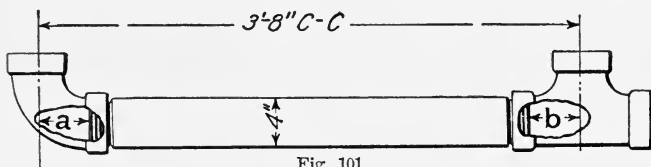

Fig. 101
**Center-to-Center Measurements.**—Center-to-center measurements, Fig. 101, are abbreviated C-C. They are taken from the center of one fitting to the center of the other. This measurement shortens the actual length of pipe to 3 feet 8 inches, minus  $a$  and  $b$ , the distance from the ends of the pipe to the center of the fittings. As in the two preceding cases, center-to-center measurements may be over several pieces of pipe from the center of one end fitting to the center of another.